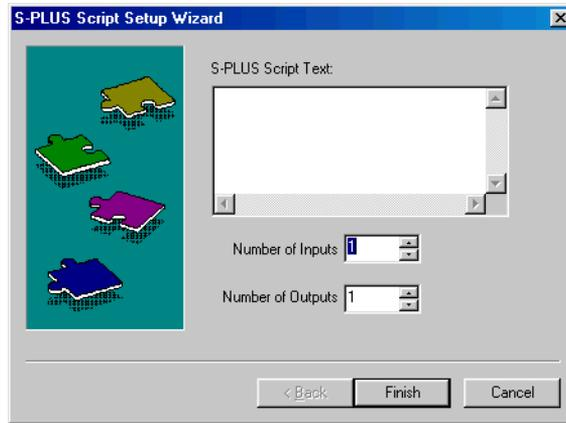

Figure 10.19: *The Spotfire S+ Script Setup Wizard.*
3. Select **Spotfire S+ Script** and then click **Next** to start the **Spotfire S+ Script Setup Wizard**, as shown in Figure 10.19.